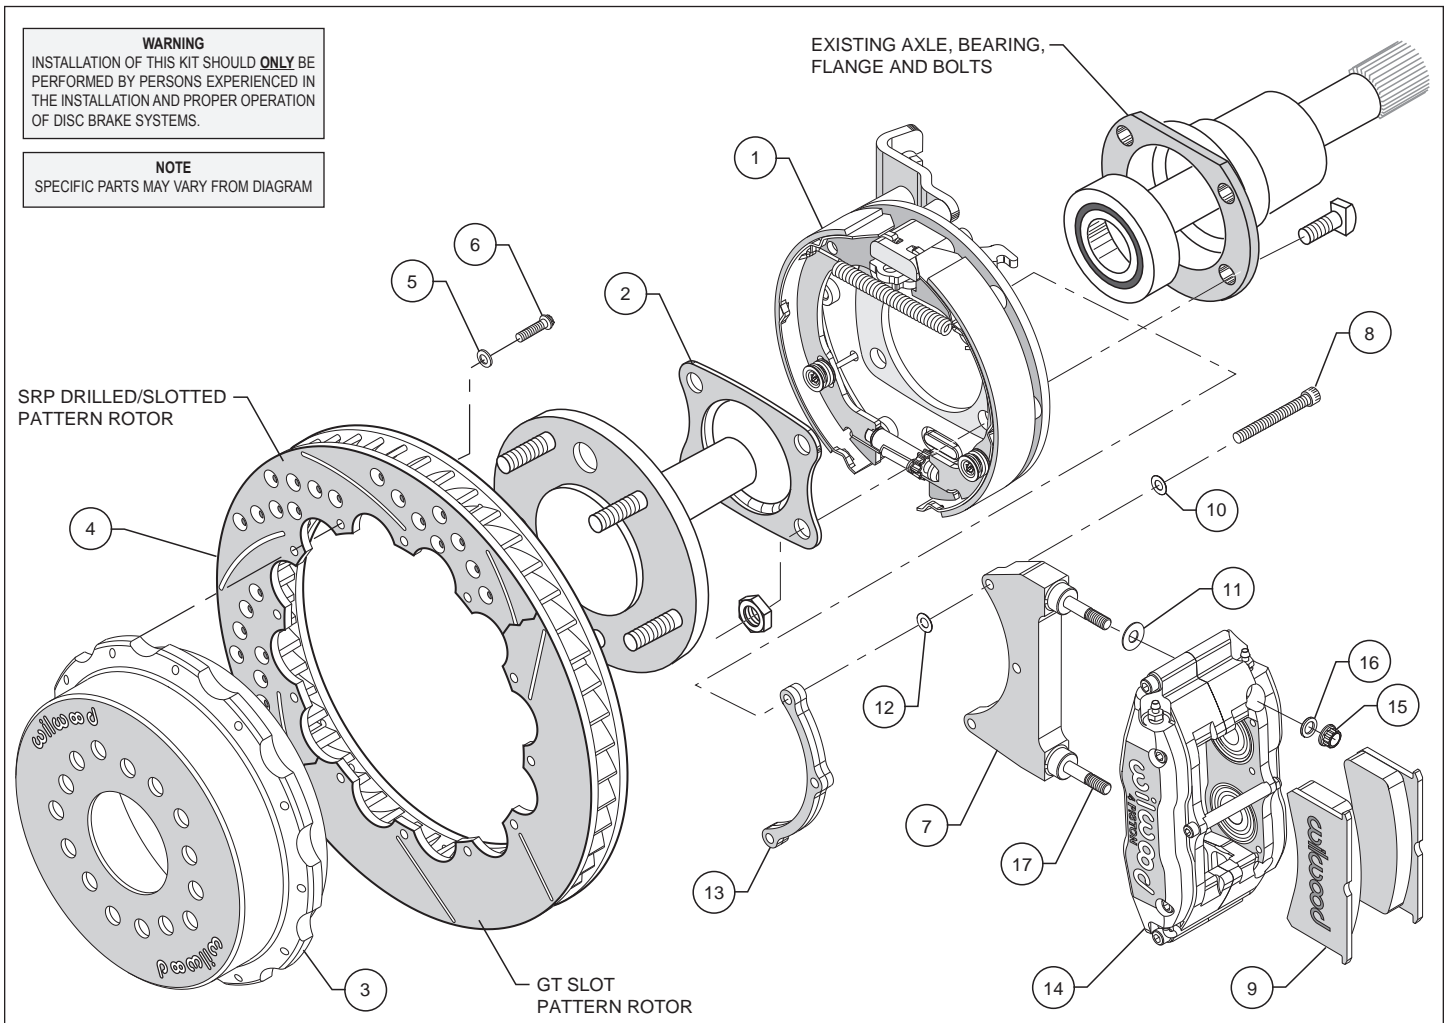

Figure 1. Typical Installation Configuration
- Full Circle Retainers** require the utilization of a qualified machine shop to press off the axle bearing and OEM retainer. Then have machine shop install new retainer (2), supplied with bracket kit with lip facing toward bearing, reference Figures 1, 4 and 5 (we suggest that you install a new bearing at this time, not supplied with kit).
- "U" Retainers** require the removal of the OEM retainer by cutting or grinding a notch in the retainer to facilitate removal. Once OEM retainer is removed, install new retainer (2) supplied with bracket kit with the "U" opening facing up and the lip facing toward bearing, reference Figures 1, 4 and 5.
•Align the correct hole pattern in the hat (3) with the stud pattern on the axle flange. **NOTE:** Some OEM and aftermarket axles come with stud sizes larger than 0.50" diameter. Verify stud size and have a qualified machine shop drill the hats to the correct size, if necessary. Slide the hat/rotor assembly (3 and 4) over the wheel studs covering the bracket kit assembly (1) and against the axle flange face. Check to be sure the hat seats squarely against the hub. Install a couple of lug nuts (finger tighten) to keep the rotor/hat assembly in place while continuing with the installation.
•**NOTE:** Please reference the caution statement at the beginning of the assembly instructions. The caliper mounting bracket assembly (7) should be installed first with clean, dry threads on the mounting bolts (8). Install the bracket from the rear side of the bracket kit assembly (1) by sliding bolt (8) through flat washer (10), bracket (7), shim washer (12) and finally through the spacer (13), see Figure 1. **NOTE:** End of bolt should not exceed inside face of insert. The bracket must tighten squarely against the back side of the bracket kit assembly (1). Inspect for interference from casting irregularities, machining ridges, burrs, etc. Use one thin shim (12) between the bracket (7) and spacer (13) during initial trial fitting.
•Install one shim (11) over each pre-installed stud (17) on the radial mount bracket (7). Slide the caliper (14) in place over the studs and rotor, then install the washer (16) and lock nut (15) to hold the caliper in place. The caliper bleed screws should be pointing up. Snug the lock nuts (15) and check that the rotor (4) is centered in the caliper (14). Add or subtract .015" shims (12) as necessary between the caliper mounting bracket (7) and the spacer (13) to center the caliper (14).
•Remove the caliper center bridge pad retainer bolt, nut, and tube from the caliper. Slide the brake pads (9) into place. They should install easily without interference. Check that the outside radius of the brake pad is aligned with the outside diameter radius of the rotor face. Add or subtract shims (11) between the caliper (14) and mount bracket (7) to gain the proper alignment. Reinstall the center bridge pad retainer tube, bolt, and locknut. The locknut should be snug without play in the bolt or tube. Be cautious not to over tighten.
•Adjust the parking brake shoes outward (using a drum shoe adjustment tool available at your local auto parts store) while spinning the hat (3) until a slight drag is felt against the hat/drum. Remove the lug nuts that were holding the hat/rotor in place. Install the wheel and lug nuts. Check to see that the wheel rotates freely without interference.
•Once all clearances have been checked, remove the wheel, caliper, hat/rotor from the bracket kit assembly (1). Secure the caliper mounting bracket (7) to the bracket kit assembly (1) using red *Loctite*® 271. Torque bolts (8) to 180 in-lb. Reinstall the hat/rotor assembly and again use lug nuts to hold it in place. Lubricate caliper mounting studs and nuts with lightweight oil, reinstall the caliper, torque the caliper nuts (15) to 30-35 ft-lb.
•**NOTE:** Clevis and cable kits which attach to the parking brake assembly are not included in the Wilwood parking brake kit. Wilwood offers a generic style parking brake cable kit, P/N 330-9371 for this application which can be ordered separately from your local Wilwood dealer or by calling Wilwood customer service at (805) 388-1188.